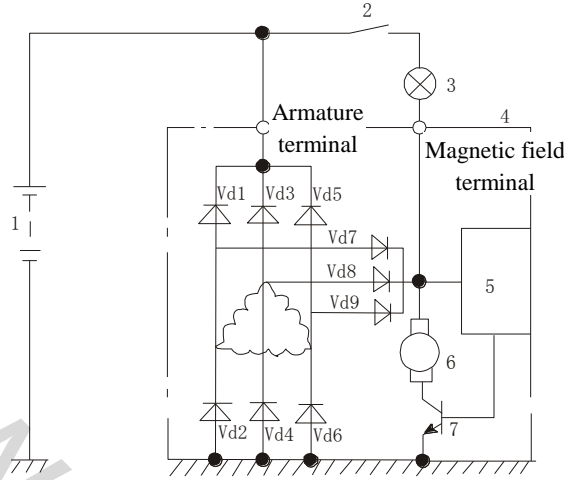

Fig.12-17 Principles of Generator Circuit
The principles of Lifan car generator circuit are shown in Fig.12-17.
(1) Purposes of regulator The induction electromotive force of generator is proportional to the rotating speed and magnetic field intensity of generator, therefore, the rectified end voltage of generator is also proportional to its rotating speed and magnetic field intensity. The rotating speed of engine can vary within a larger range during its actual operation, which makes its voltage variable and unable to satisfy its use requirements. The regulator is used to stabilize the voltage of generator by adjusting the field intensity of generator if the rotating speed of engine varies.
(2) Voltage-stabilizing principles of regulator The input of regulator is induced by the voltage of generator, and the high-power switch triode of regulator is connected to the exciting circuit of generator in series (refer to Fig.12-17). Only if this triode is connected, the exciting circuit of generator can be connected. The voltage-adjusting process of regulator is as follows: